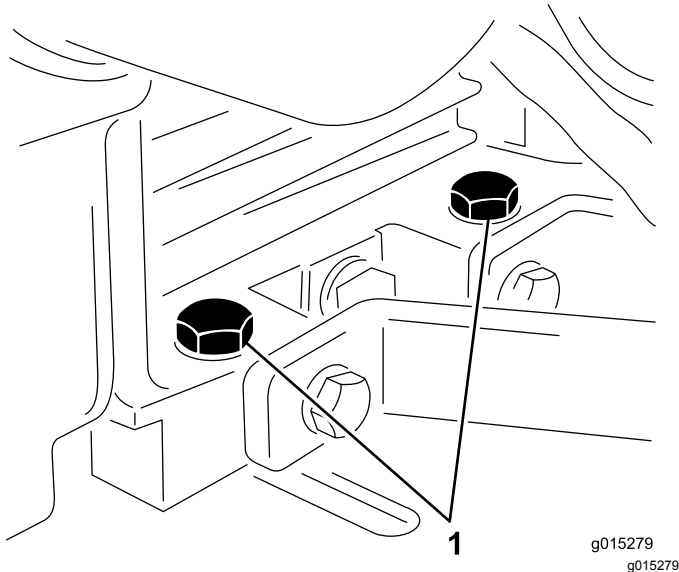

Figure 21
2. Loosen the engine mounting bolts (Figure 21).